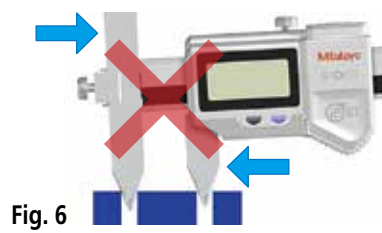

Fig. 6
2. Do not measure an object with the measuring faces tilted. (**Fig. 6**)